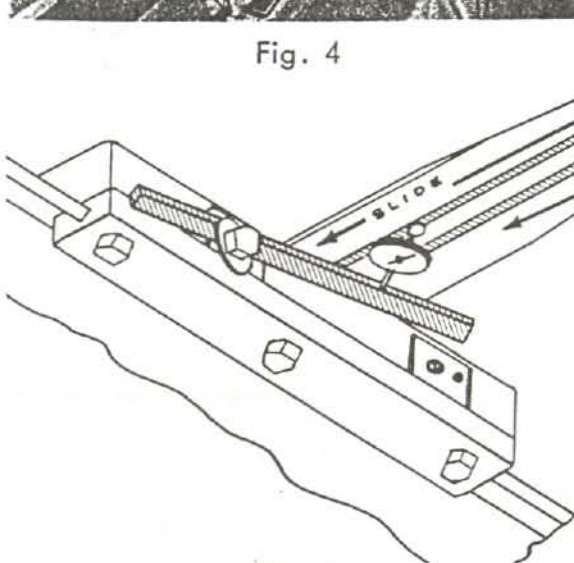

Fig. 5
- b. Check with indicator mounted from rear bearing pads touching sliding surface of Bar. Fig. 5.